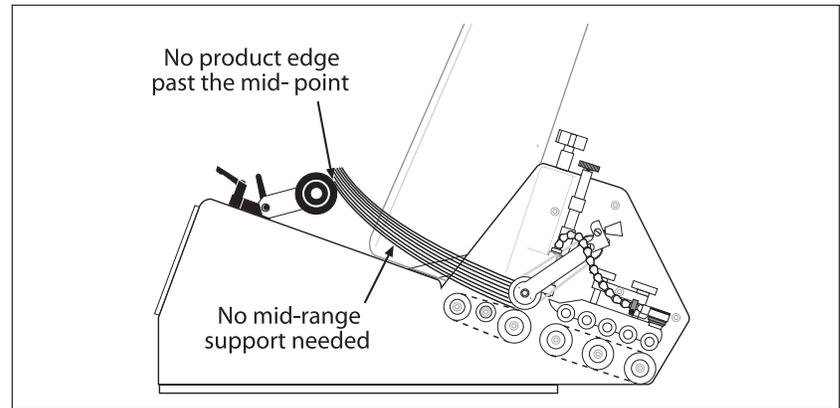

Figure 6-8. **Articulating Roller Wedge Setup**
**Setup guidelines:** Adjust so roller edges preshingle the stack against the curvature of gate assembly. Again, make sure edges of product do not extend back more than the mid-point of roller. See Figure 6-8. *NOTE: With some product that tends to bind together (e.g., perforated product), it may be beneficial to separate 4 to 5 sheets of product at the bottom to provide some air space.*